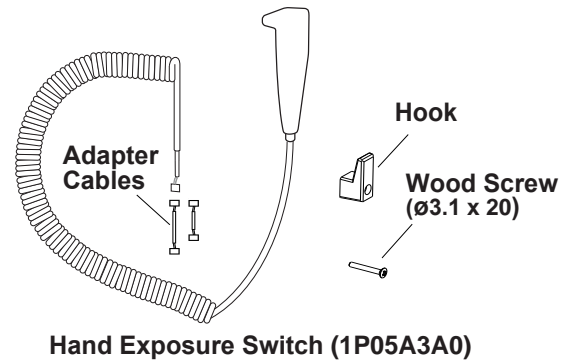

Fig.3-23 Hand Exposure Switch Kit
1. Confirm the hand exposure switch kit contains: a hand exposure switch, two adapter cables, a hook and a screw for hook (ø3.1 x 20 mm). (Fig.3-23)
2. Connect the red adapter cable (longer cable) to the connector of the hand exposure switch. (Fig.3-23)